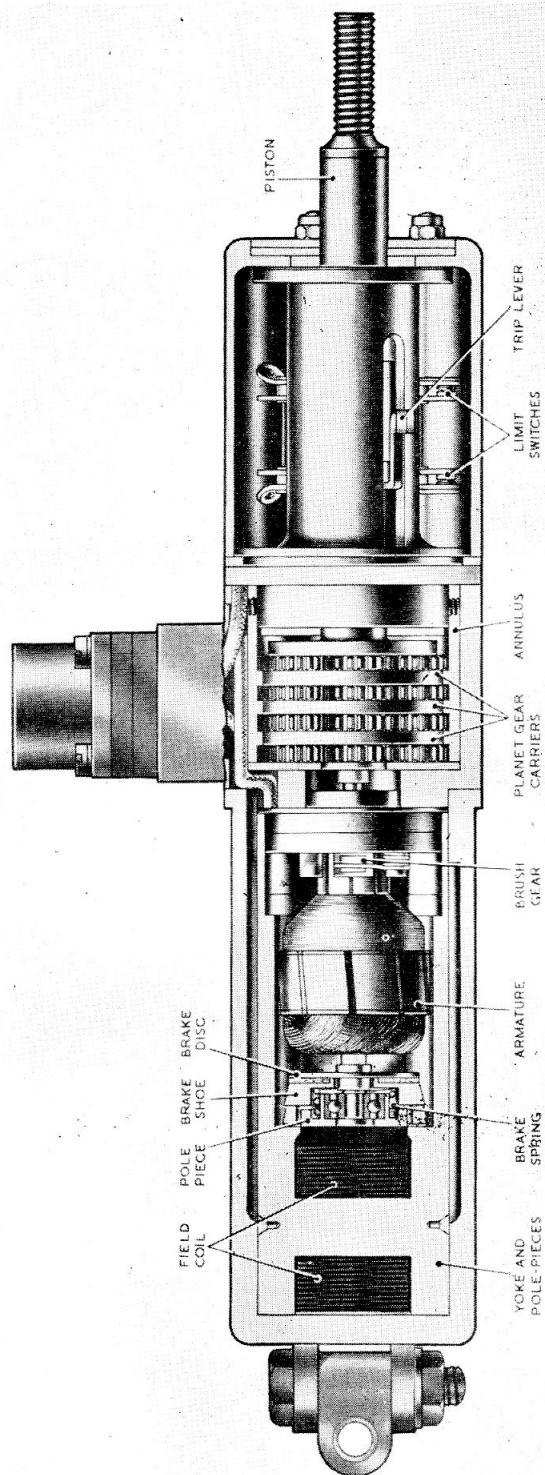

Fig. 1. Sectional view of actuator, Type EJ50, Mk. 26
2. This actuator follows the general design described in the Appendix to A.P.4343, Vol. 1, Sect. 17, Chap. 2 dealing with Western actuators. The rating of the actuator is 1 minute at nominal load, with a current consumption of 1.5 amp. The general internal construction can be seen in the sectional drawing given in fig. 1, where the piston is shown partly extended.